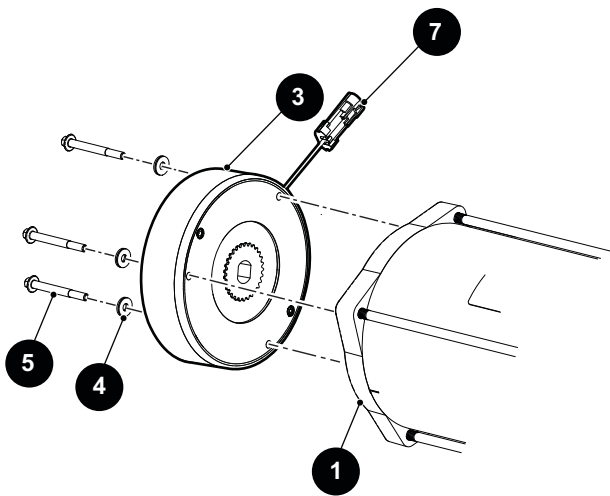

Fig. 1 Motor Brake
2. Disconnect the harness from the motor brake connector (7).
3. Remove the three bolts (5) and washers (4) that secure the motor brake (3) to the motor (1).
4. Remove the motor brake (3) (Ref. Fig. 1).